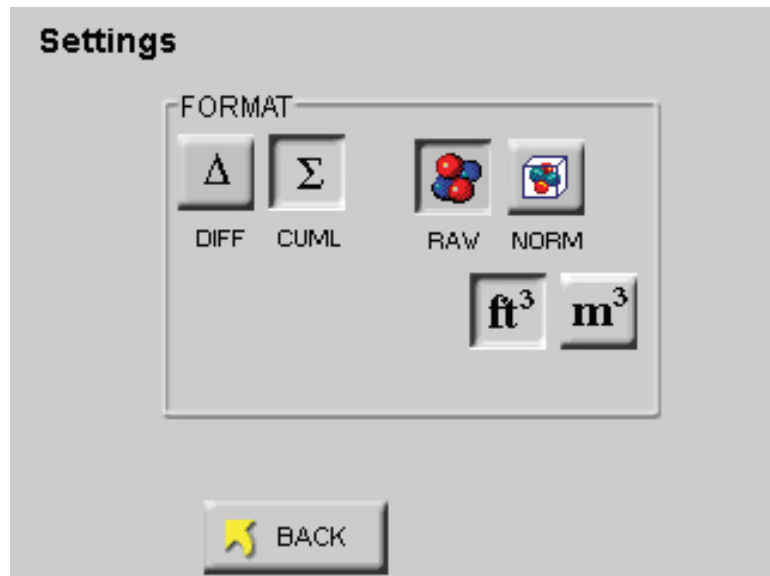

Figure 6-97 Reports Settings Screen
- Press the SETTING button to format the instrument for CUMUL/DIFF, RAW/NORM, ft³/m³ as shown in Figure 6-97.